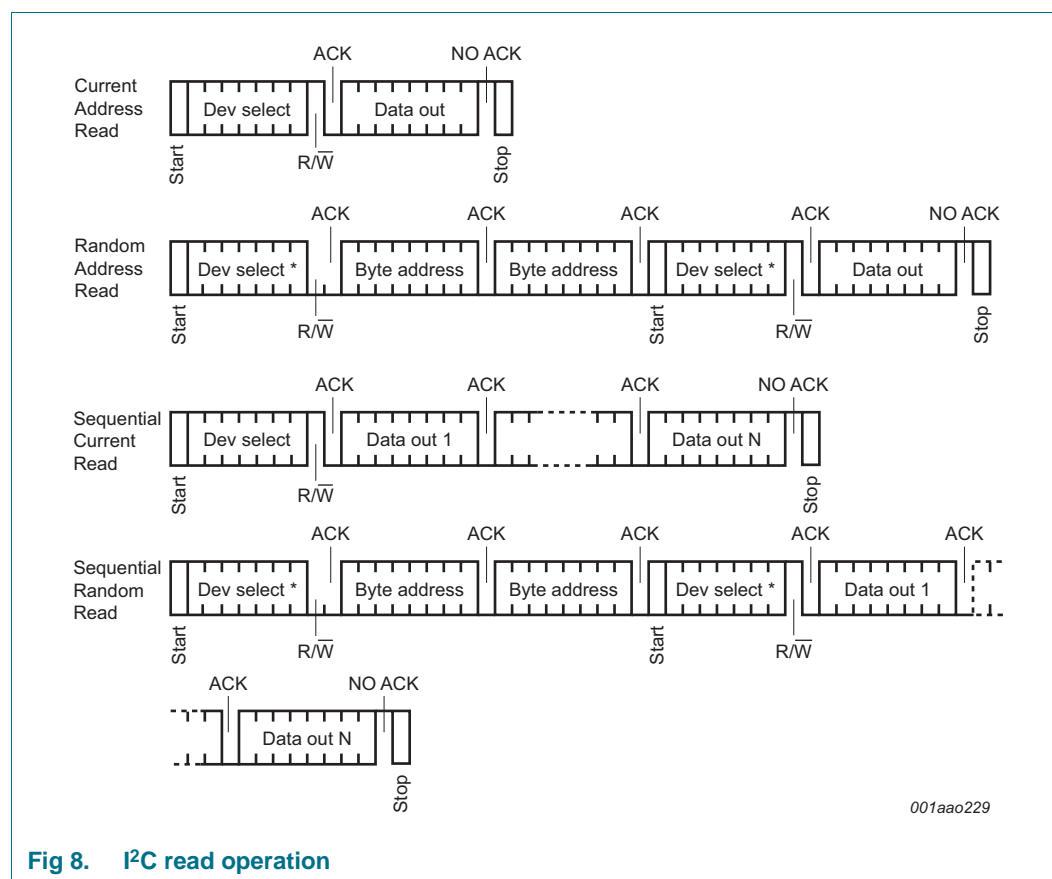

Fig 8. I²C read operation
A dummy Write is first performed to load the address into this address counter (as shown in Figure 8) but without sending a Stop condition. Then, the bus master sends another Start condition, and repeats the device select code, with the Read/Write bit (RW) set to 1. The UCODE I²C acknowledges this, and outputs the contents of the addressed byte. The bus master must not acknowledge the byte, and terminates the transfer with a Stop condition.
For the Current Address Read operation, following a Start condition, the bus master only sends a UCODE I²C select code with the Read/Write bit (RW) set to 1. The UCODE I²C acknowledges this, and outputs the byte addressed by the internal address counter. The counter is then incremented. The bus master terminates the transfer with a Stop condition, as shown in Figure 8, without acknowledging the Byte.
This operation can be used after a Current Address Read or a Random Address Read. The bus master does acknowledge the data byte output, and sends additional clock pulses so that the UCODE I²C continues to output the next byte in sequence. To terminate the stream of bytes, the bus master must not acknowledge the last byte, and must generate a Stop condition, as shown in Figure 8.